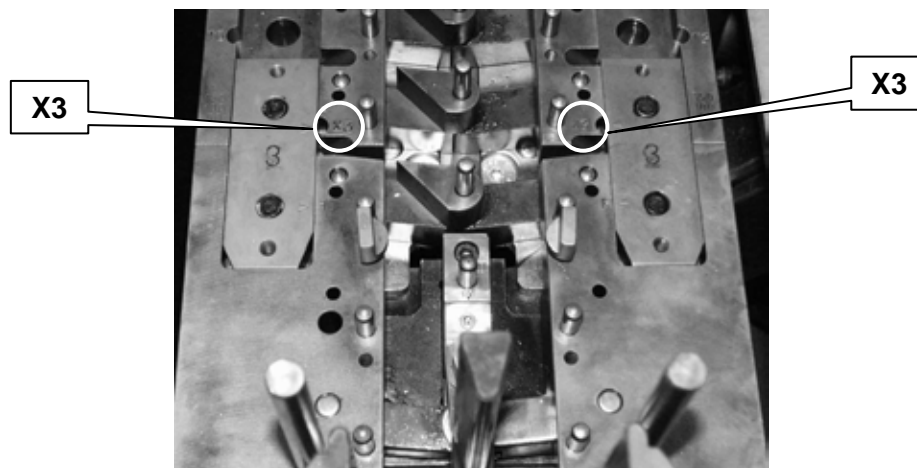

Fig. 4.56 – Fulcrum N 3 repositioned
- check they are both on position X3 (fig. 4.56);